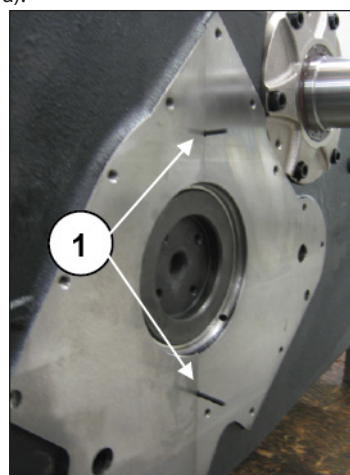

Fig. 113
The O-rings should protrude by 2 mm (pos. ①, Fig. 113).